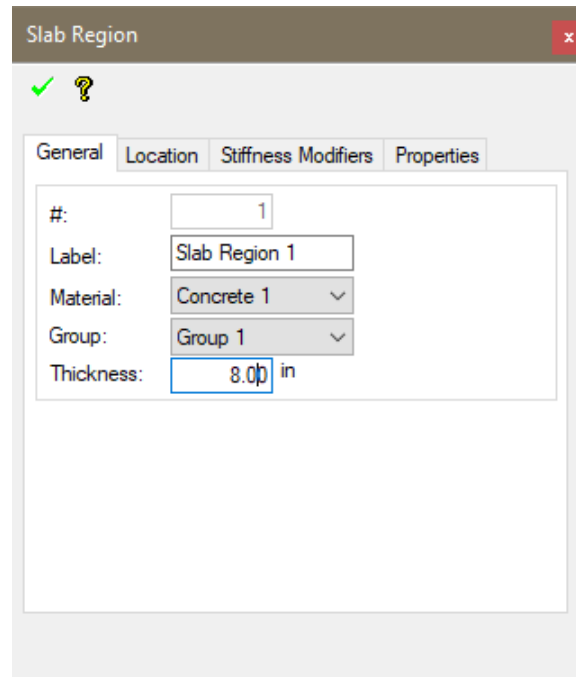

Figure 2-24
- Click on the *Item's Properties* icon  of the *Properties* panel. This will open up the *Slab Region* properties window as shown in **FIGURE 2-24**.